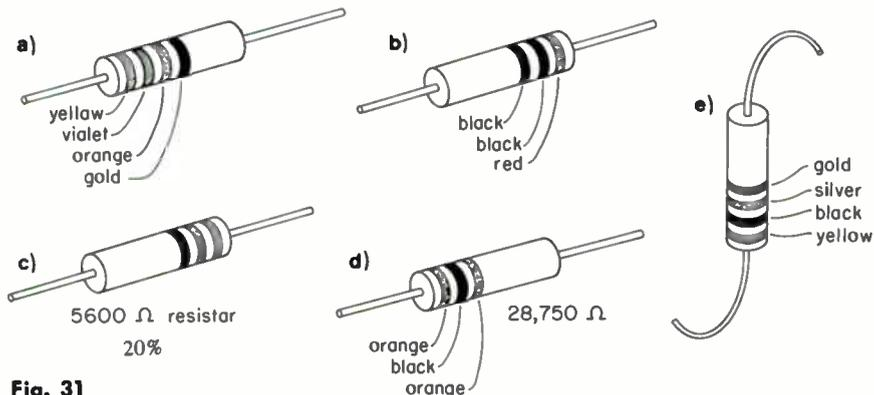

Fig. 31
2. The color code value of the resistor in Fig. 31(a) is _____ ohms. If the resistor measures 49,000 Ω it (*is*) (*isn't*) within tolerance. The lowest value the resistor could measure and still be within tolerance is _____ ohms.
3. The resistor in Fig. 31(b) should measure _____ ohms, with a tolerance of _____ per cent. The third band of the resistor indicates that you should add _____ to the first two numbers.
4. The resistor in Fig. 31(c) would be color-coded _____, _____, _____.
6. The resistor in Fig. 31(d) measures 28,750 Ω , and the color bands are orange, black, orange. Is the resistor within tolerance? What is the highest resistance the resistor could measure and still be within tolerance?
7. The resistor in Fig. 31(e) is color-coded _____ ohms, and its tolerance is _____ per cent.